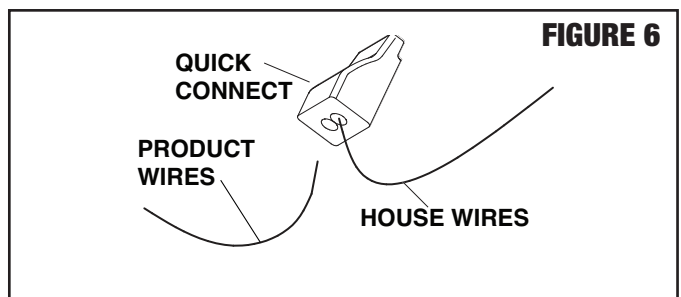

FIGURE 6
6. USING QUICK CONNECT (FIGURE 6)